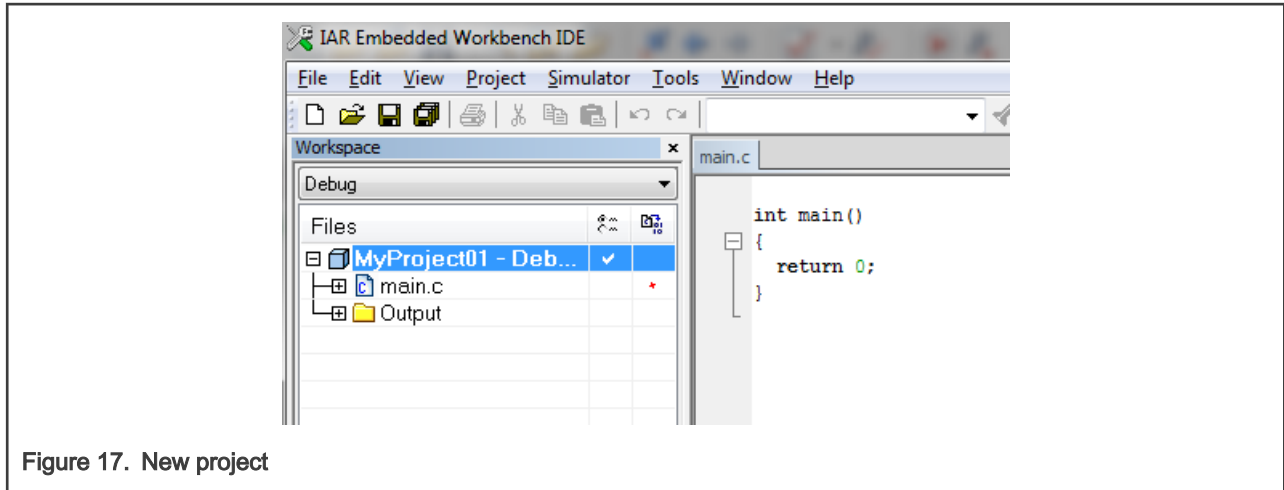

Figure 17. New project
4. Navigate to the folder where you want to create the project, for example, C:\IARProjects\MyProject01. Type the name of the project, for example, MyProject01. Click Save, and a new project is created. The new project is now visible in the left-hand part of IAR Embedded Workbench. See Figure 17.